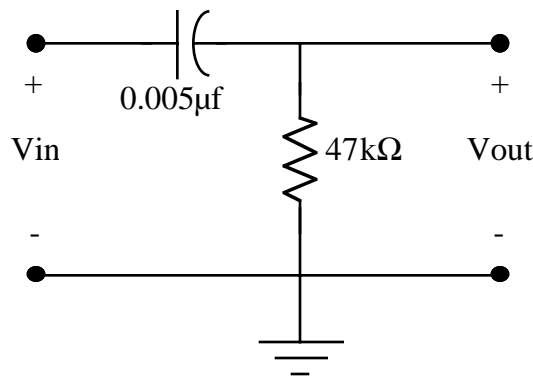

Figure 5. High pass RC filter.
The circuit for the high pass filter that you will study is shown in Figure 5. Its transfer function is
- Obtain Eqs. (9) and (10) from Eq. (8). Using the values for R and C from Figure 5, calculate the expected characteristic frequency for the high pass filter.